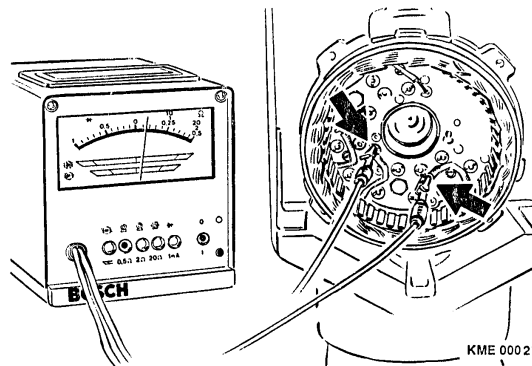

Figure 12 Stator Resistance Testing
1. With tester WPG 012.00 or Multimeter MMD 302 set to read 0 to 0.5 Ω , test the resistance of the stator while it is still attached to the rectifier assembly. Connect the test leads between the phase outputs of the stator. Repeat the test until all three phases of the stator has been tested. A good stator will read between 0.036 Ω and 0.040 Ω . (Figure 12)